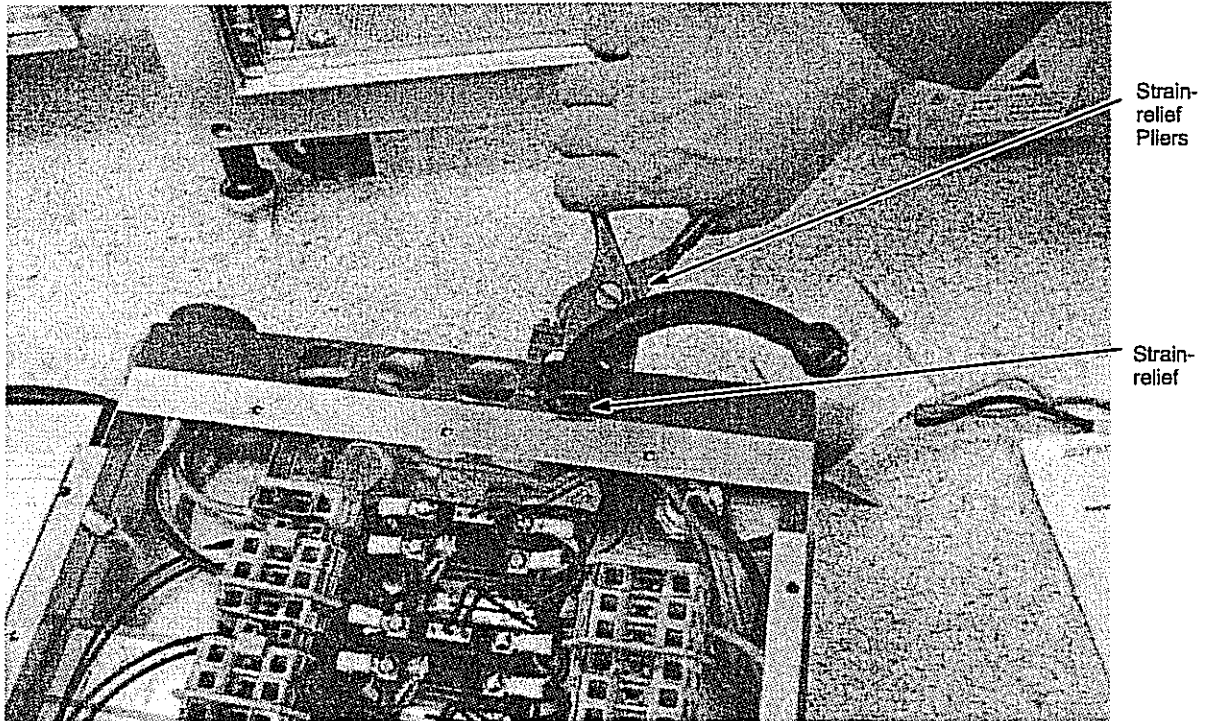

Figure 7-65. Cable Strain-relief Device and Strain-relief Pliers
15. Remove each AC cable strain-relief using a strain-relief pliers (part number 90232800), and remove the cables. The procedure for removing the strain-reliefs is inside the incoming power module. Refer to Figure 7-65.
16. Remove each AC cable strain-relief using a strain-relief pliers and remove the cables. The procedure for removing a strain-relief is inside the incoming power module. Refer to Figure 7-65.